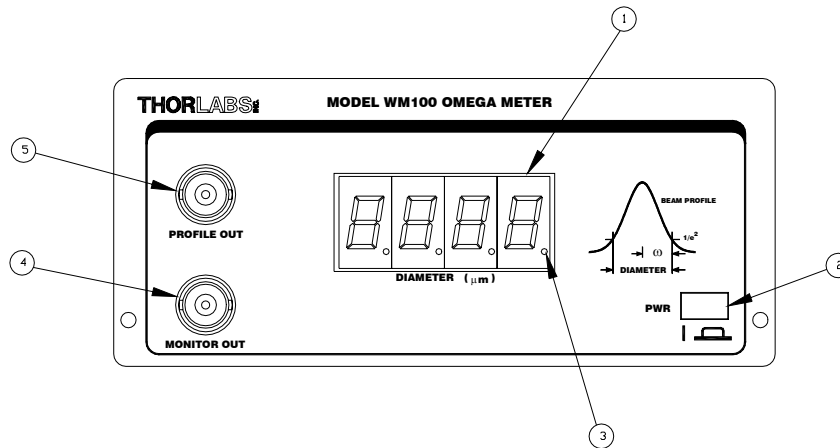

Figure 1. WM100 Front Panel
- marked correspondingly with the crossed out “wheelie bin” logo (see fig. 1)